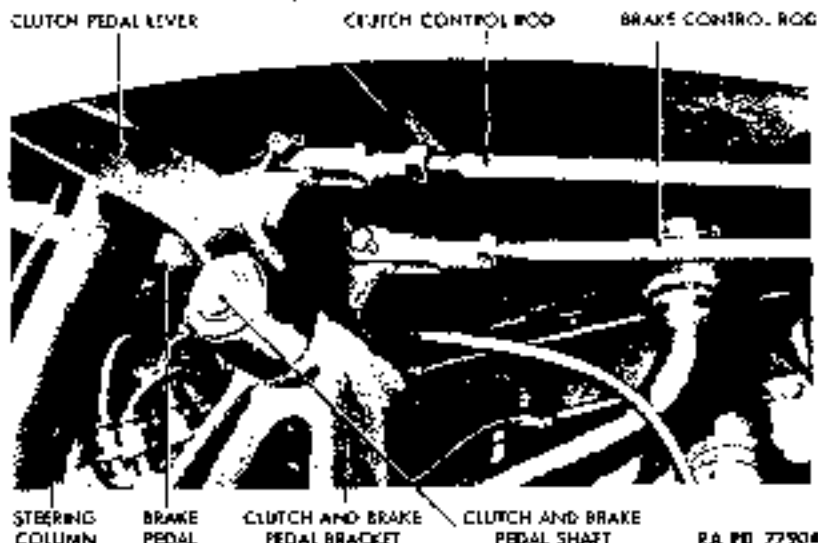

Figure 28 - Clutch, Brake Pedals, and Linkage
qq. Remove Clutch Pedal Lever, Brake Pedal Lever, and Clutch and Brake Pedal Bracket (fig. 28). Remove the 5 nuts, 10 lock washers, and 5 bolts which secure bracket to frame. Remove bracket and pedal levers as a unit.
w. Install Clutch Pedal Lever, Brake Pedal Lever, and Clutch and Brake Pedal Bracket (fig. 28). Position bracket to frame. Install the five bolts, two toothed lock washers, eight lock washers, and five nuts which secure bracket to frame.
(1) DISCONNECT CLUTCH CONTROL ROD AND CLUTCH PEDAL LEVER (fig. 28). Remove the cotter pin and clevis pin which secures rod to lever.
(2) REMOVE CLUTCH PEDAL LEVER FROM CLUTCH AND BRAKE PEDAL SHAFT (fig. 28). Remove taper pin, lock ring, and flat washer which connects lever to shaft. Slide shaft over away from clutch side, and remove pedal lever.
(4) **INSTALL CLUTCH PEDAL LEVER ON CLUTCH AND BRAKE PEDAL SHAFT** (fig. 28). Slide pedal shaft over away from clutch pedal side. Position pedal lever on end of shaft, and secure with the flat washer, lock ring, and taper pin.
(5) **CONNECT CLUTCH CONTROL ROD AND CLUTCH PEDAL LEVER** (fig. 28). Position clutch control rod to pedal lever, insert clevis pin, and secure with cotter pin.